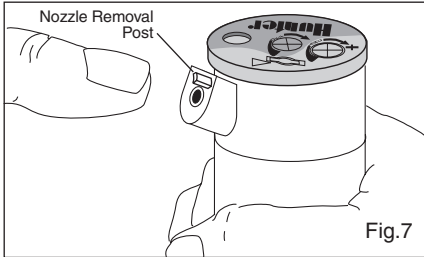

Fig. 7
3. Slip the desired nozzle into the nozzle socket (Fig. 7). Note that the socket is angled up 25°. Then tighten the nozzle range screw. The triangle on the rubber cover will always indicate the location of the nozzle and direction of water flow when the sprinkler is retracted.